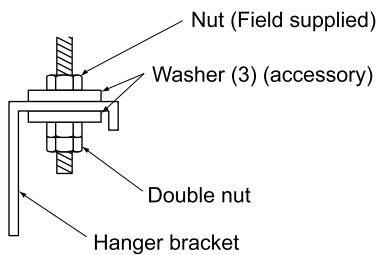

Fig. 9
- (1) Secure the hooks to the eyebolts. (Refer to Fig. 9)